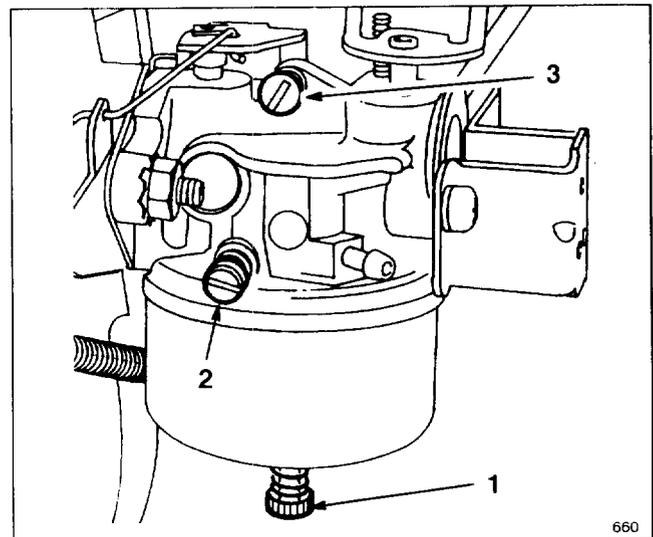

Figure 29
2. Power Adjusting Screw (Fig. 29)—Close screw by gently rotating it clockwise until a slight seating resistance is felt. Next, rotate power adjusting screw one full turn—360°—counterclockwise.
3. Idle Mixture Screw (Fig. 29)—Close screw by gently rotating it clockwise until a slight seating resistance is felt. Next, rotate idle mixture screw 1–1/2 full turns counterclockwise.
5. Rotate power adjusting screw (Fig. 29) clockwise—in—1/8 turn at a time until engine misses because of a lean gasoline mixture. Then rotate screw counterclockwise—out—1/8 turn at a time until engine runs unevenly because of a rich gasoline mixture. Next, rotate power adjusting screw clockwise, back to the midpoint between the rich and lean settings, so engine runs smoothly.
7. Rotate idle mixture screw (Fig. 29) clockwise—in—1/8 turn at a time until engine begins to miss because of a lean mixture. Then rotate screw counterclockwise—out—1/8 turn at a time until engine runs unevenly because of rich mixture. Next, rotate idle mixture screw clockwise, back to the mid-point between rich and lean settings.
8. Again, rotate idle speed screw (Fig. 29) until engine idles at 1750 rpm.